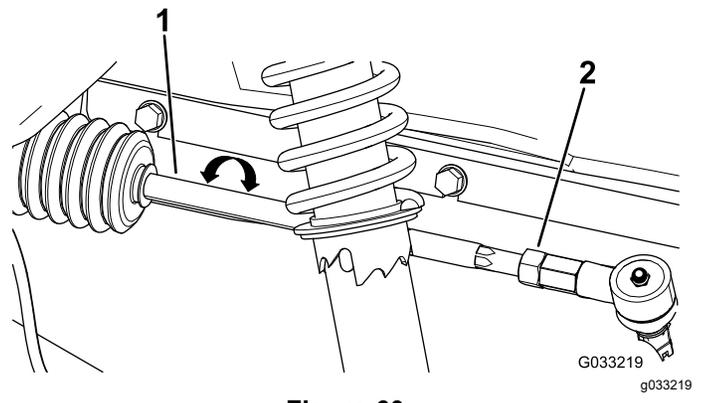

Figure 60
4. If the measurement does not fall within 0 to 6 mm (0 to 1/4 inch), loosen the jam nuts at the outer end of the tie rods (Figure 60).